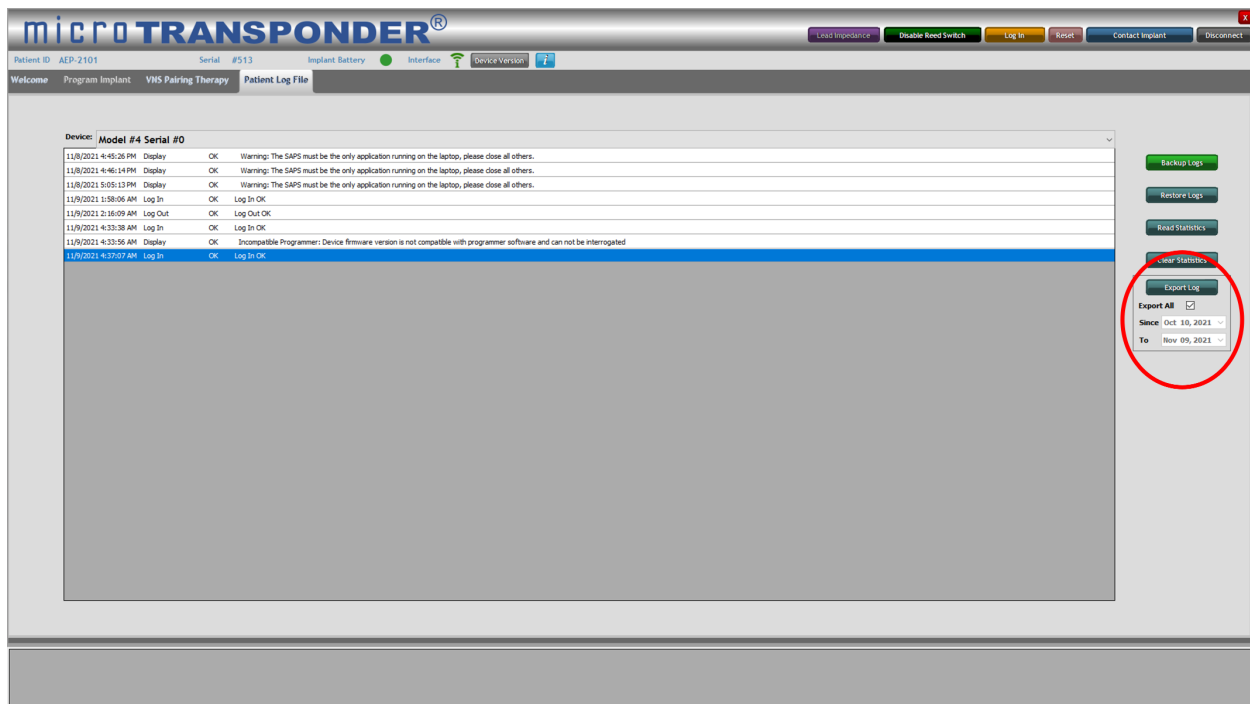

Figure 8.2: Patient Log File—Export Log
- To export the SAPS log, select the **Export Log** button. When prompted, enter the password provided. These are saved in .txt format to the hard drive of the laptop. You may choose a particular date range for export or choose to Export All (circled in Figure 8.2).